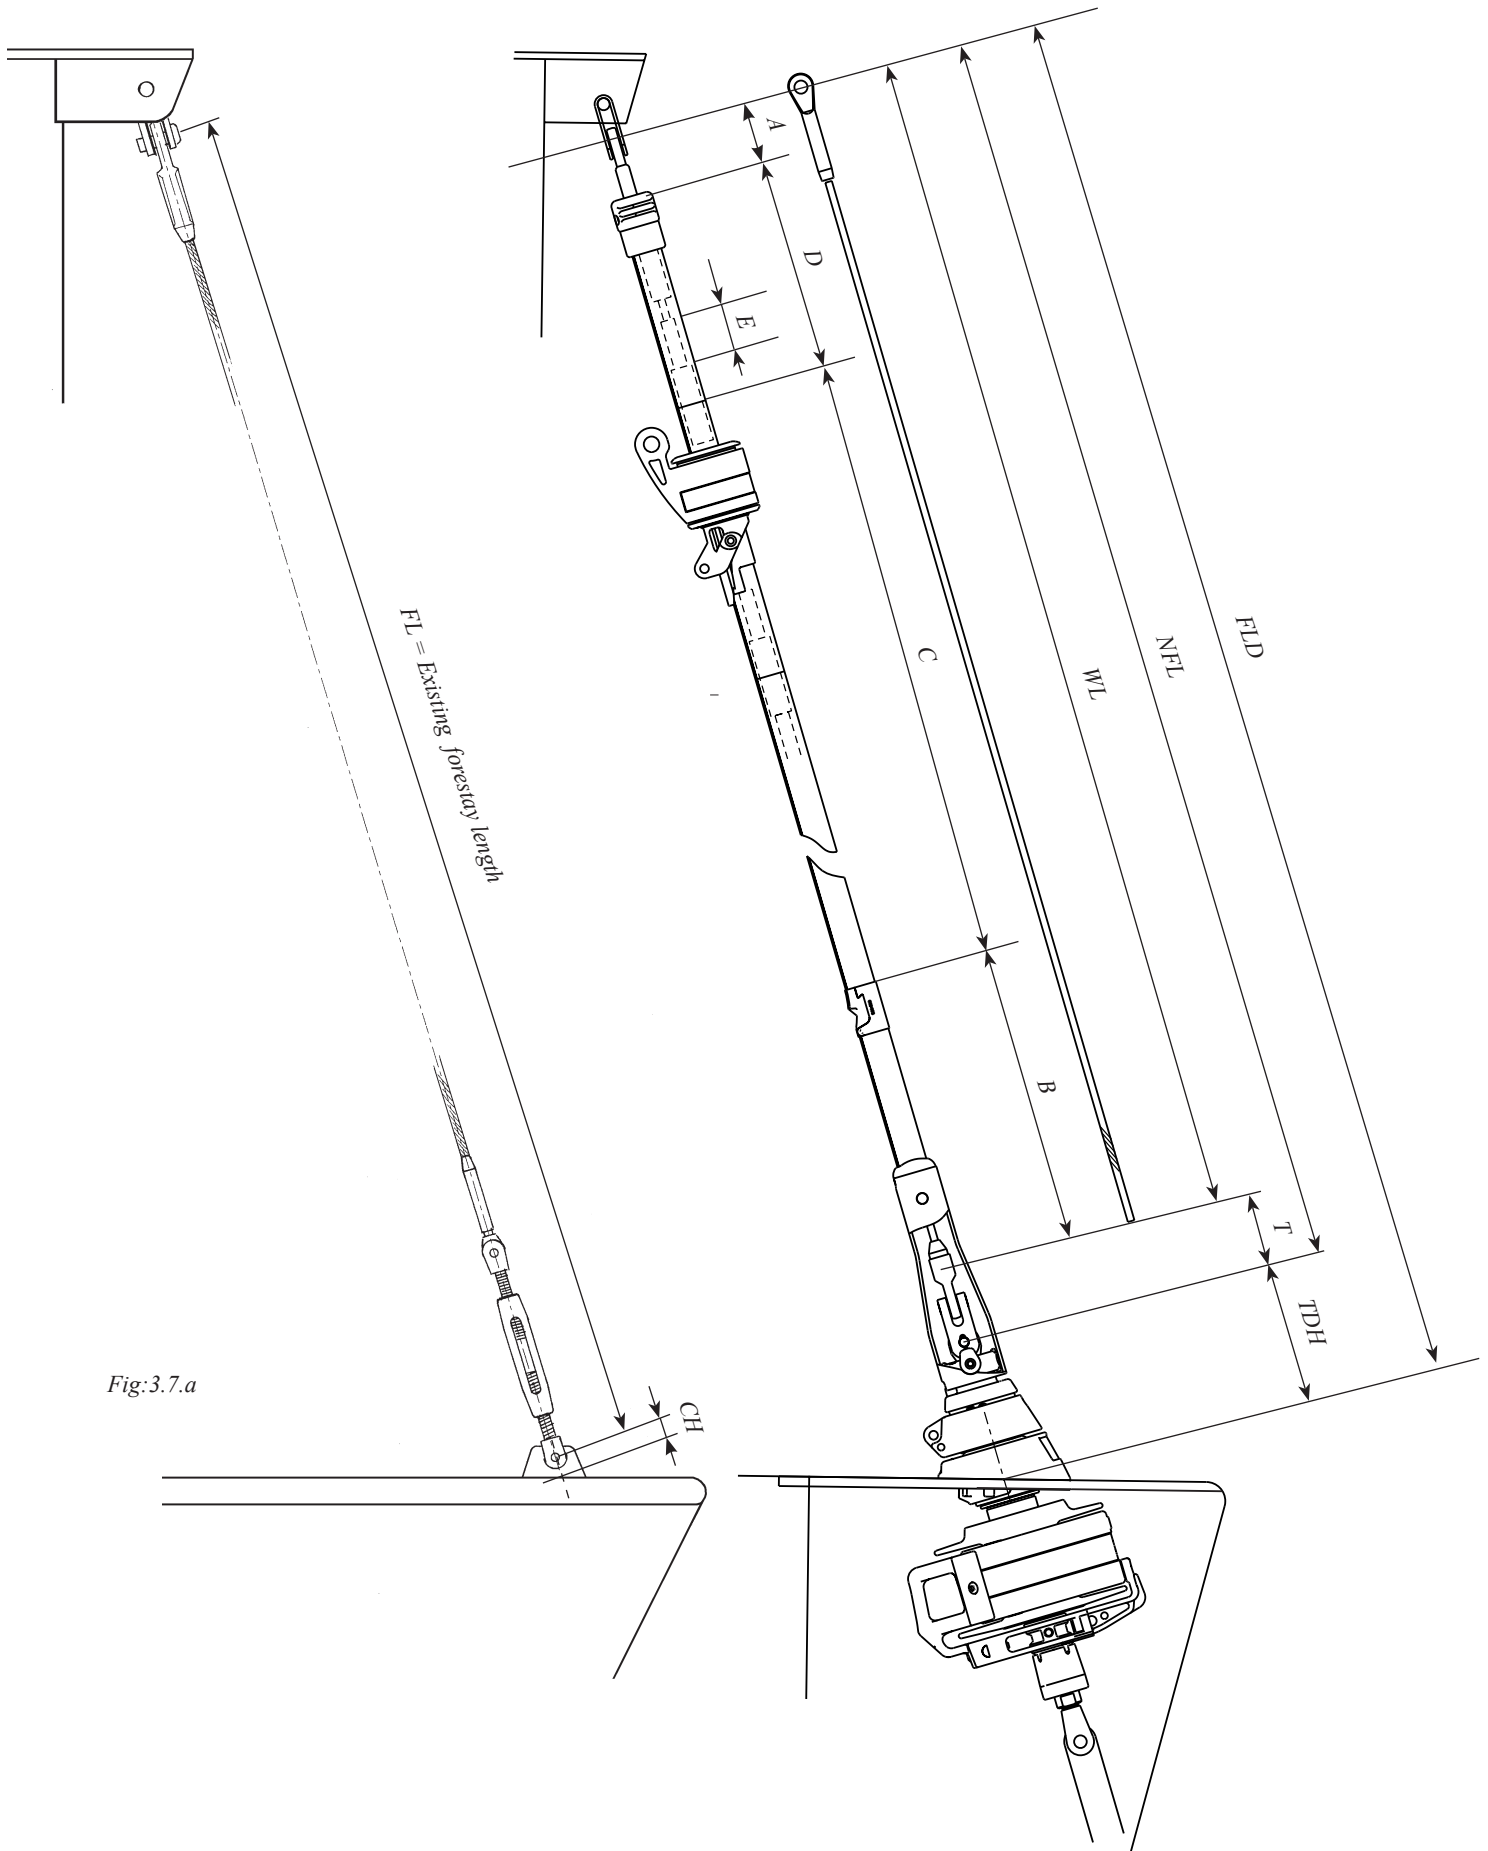

Fig:3.7.a
<ol style="list-style-type: none"> 1. Establish the forestay angle. Use an accurate drawing, which shows details of the area of the deck where the Furlex will be attached (see fig 3.5.c). 2. Transfer this angle to a cardboard jig. 3. Press the jig against the underside of the deck and move it longitudinally until the edge representing the forestay line intersects the hole in the forestay fitting in the anchor well. Mark the intersection point on the underside of the deck and drill a 6,5 mm hole through the deck. <p>fig. 3.5.c</p> 	<ol style="list-style-type: none"> 1. Make a jig which represents the forestay angle (FA) above deck (See fig 3.5c) 2. Using this jig, mark the angle CSA between the forestay fitting in the anchor well and the forestay intersection point 3. If these angles are equal, the existing forestay fitting is correctly located. If the angles are not equal the forestay angle FA must be used also below deck to decide the intersection point. Press the jig against the underside of the deck and move it longitudinally until the edge representing the forestay line intersects the hole in the forestay fitting in the anchor well. Mark the intersection point in the for-and aft direction accurately on the underside of the deck and drill a 6,5 mm hole through the deck. 4. Remove the forestay. The recommended procedure is to firstly slacken the backstay. Pull the masthead forward using the genoa halyard. Secure the halyard using a "D"-shackle or tie to a strong deck fitting. For safety reasons do not use the halyard snap shackle. NOTE. If the forestay is to be used to decide the forestay length FLD, the setting of any rigging screw must not be changed 5. Remove the forestay. Measure the distance between deck level and the chainplate pin hole (see fig 3.7.a) and enter the figure in table 3.6.1. 6. Remove the forestay fitting from the deck. 7. Mark the intersection point on the underside of the deck by drawing a line along the longitudinal centreline of the boat and using earlier marking as per item 3. 8. Drill a 6.5 mm hole at the intersection point.